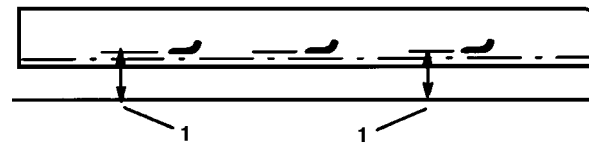

Figure 18
5. Position all three blades in the “A” position (Fig. 17) and measure from level surface to the bottom of the tip end of each blade (Fig. 18).
6. Note measurement attained at “A”, rotate blades to the “B” position (Fig. 17), measure distance of all blades to level surface and note dimensions (Fig. 18).